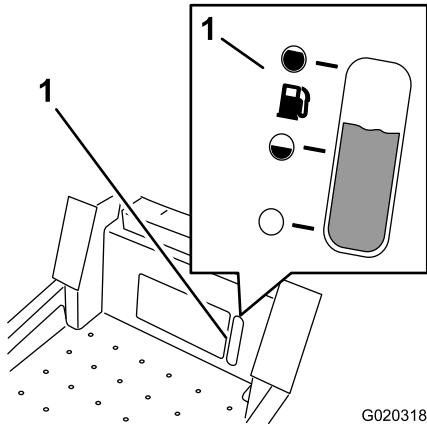

Figure 6
The fuel window located below the operator position can be used to verify the level of gasoline in the tank (Figure 6).
Use the fuel window below the operator to verify the level of gasoline before filling the tank (Figure 6).
**Note:** You can use the fuel window below the operating position verify the presence of gasoline before filling the tank (Figure 6).